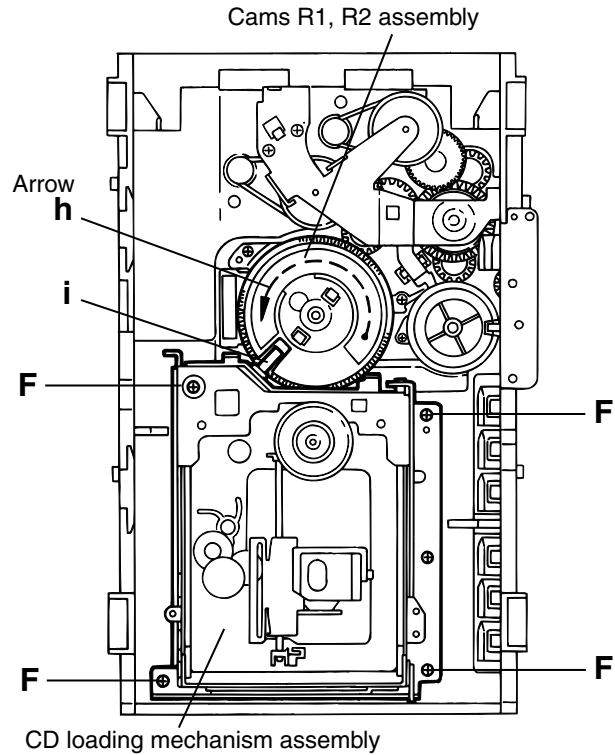

Fig.10
### ■ Removing the CD loading mechanism assembly(See Fig.10)
1. While turning the cams R1 and R2 assembly in the arrow direction "h", align the shaft "i" of the CD loading mechanism assembly to the position shown in Fig.10.